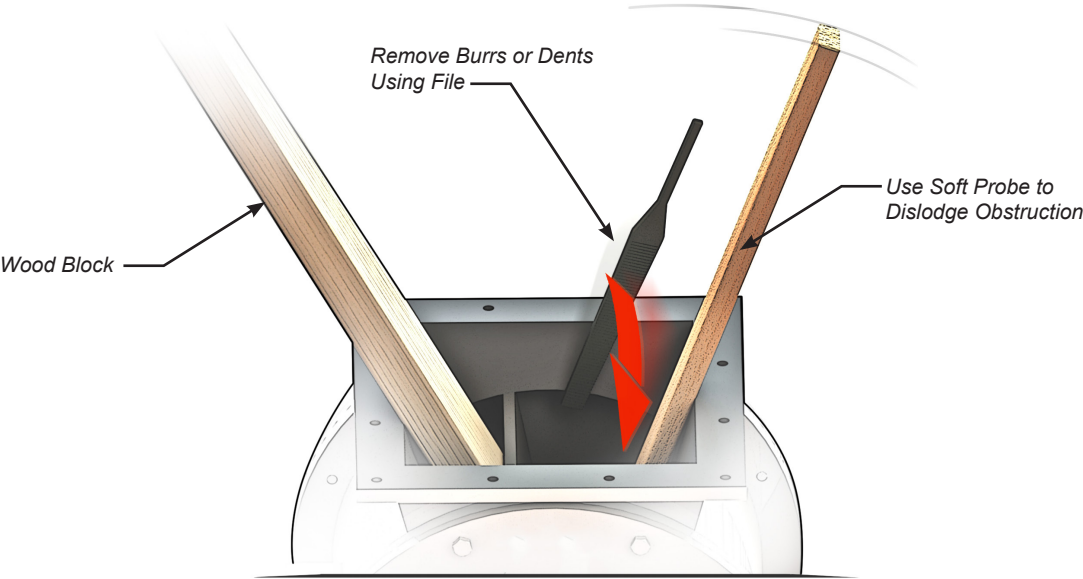

FIGURE 7
- 3. Place a block in the airlock to prevent the rotor from turning unexpectedly (Figure 7).